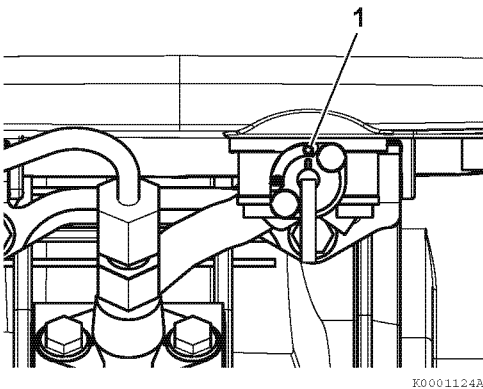

Figure 1
2. Make sure the fuel cock is in the ON position (1, Figure 1).